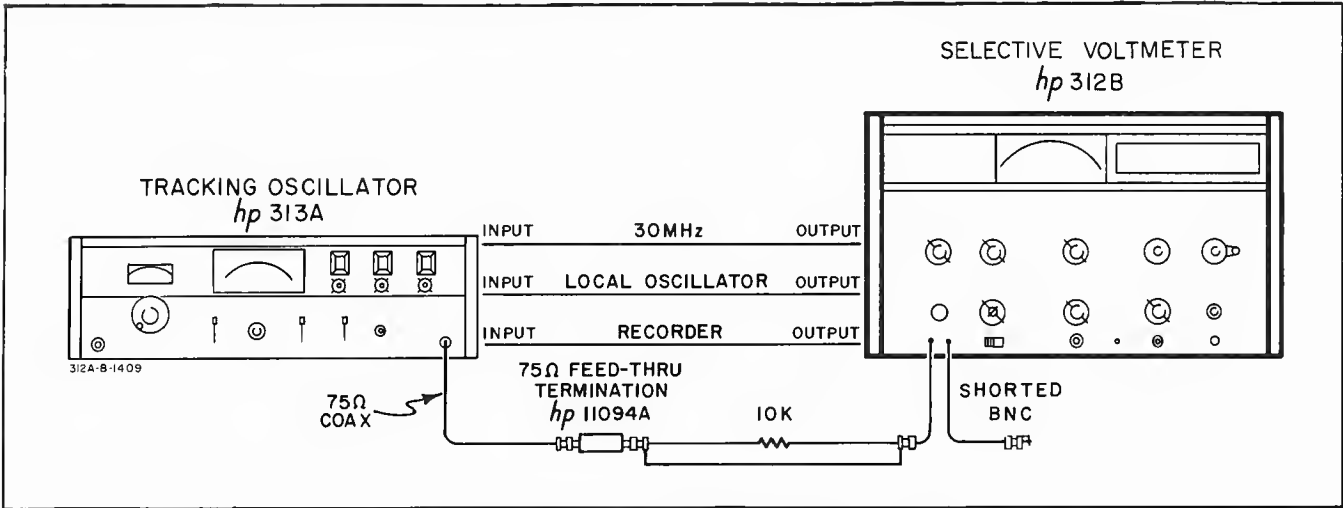

Figure 5-5. Bridging Impedance Test Setup – 312B.
- b. Connect a 10 kΩ ± 1% resistor in series with the input lead to J1 on the 312B as shown in Figure 5-5. The 312B Meter indication should drop by 6 dB or less indicating an input bridging impedance to ground of 10 kΩ or greater.